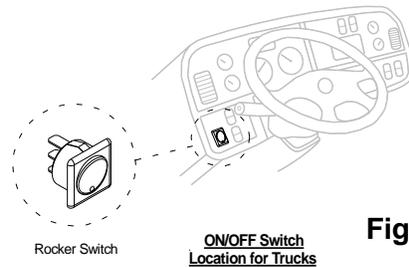

Fig. 34
1. Turn Power Switch On (If applicable): To activate power to the liftgate, turn the cab shutoff switch, **Fig.34.**